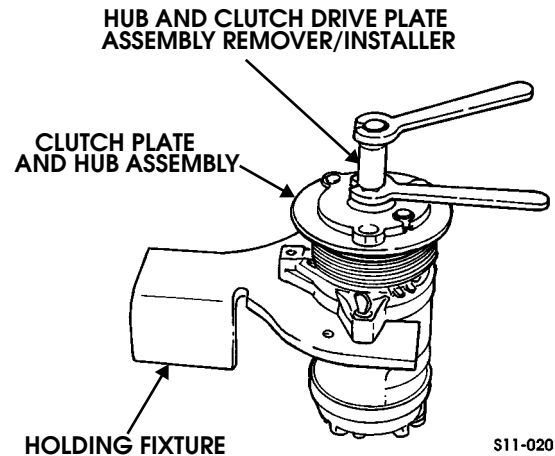

Figure 11-49: Clutch Plate and Hub Assembly
4. With center screw forcing tip in place to thrust against the end of the shaft, thread the hub and clutch drive plate assembly remover/installer into the hub. Hold the body of the remover with a wrench, and turn the center screw into the remover body to remove the clutch plate and hub assembly (Figure 11-49).